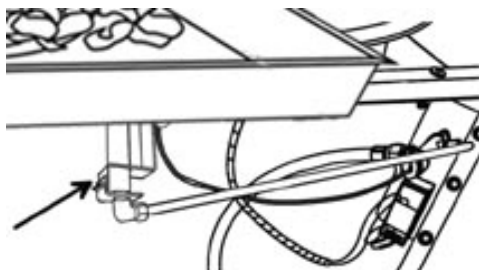

Figure 7
- Disconnect the gas tube from the orifice and remove the orifice holder as shown in Fig .7.